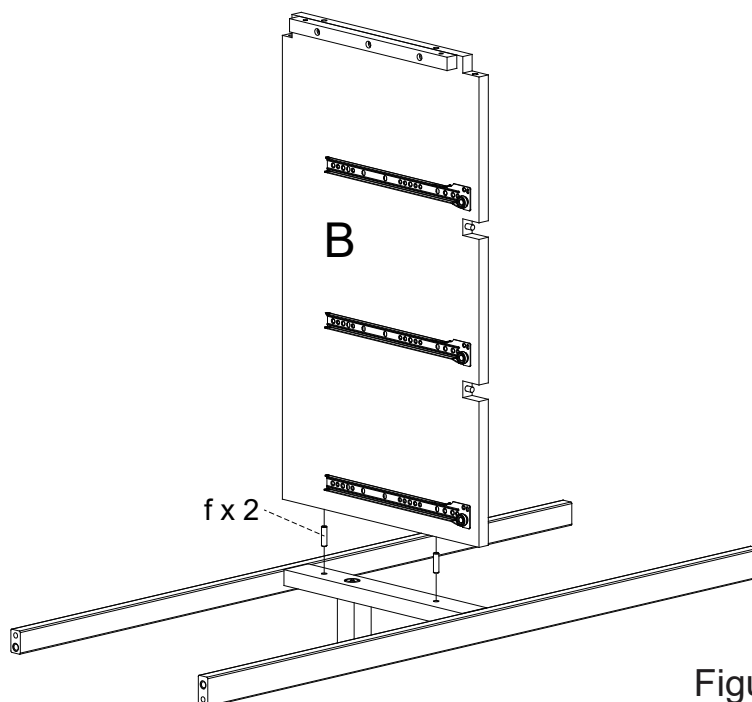
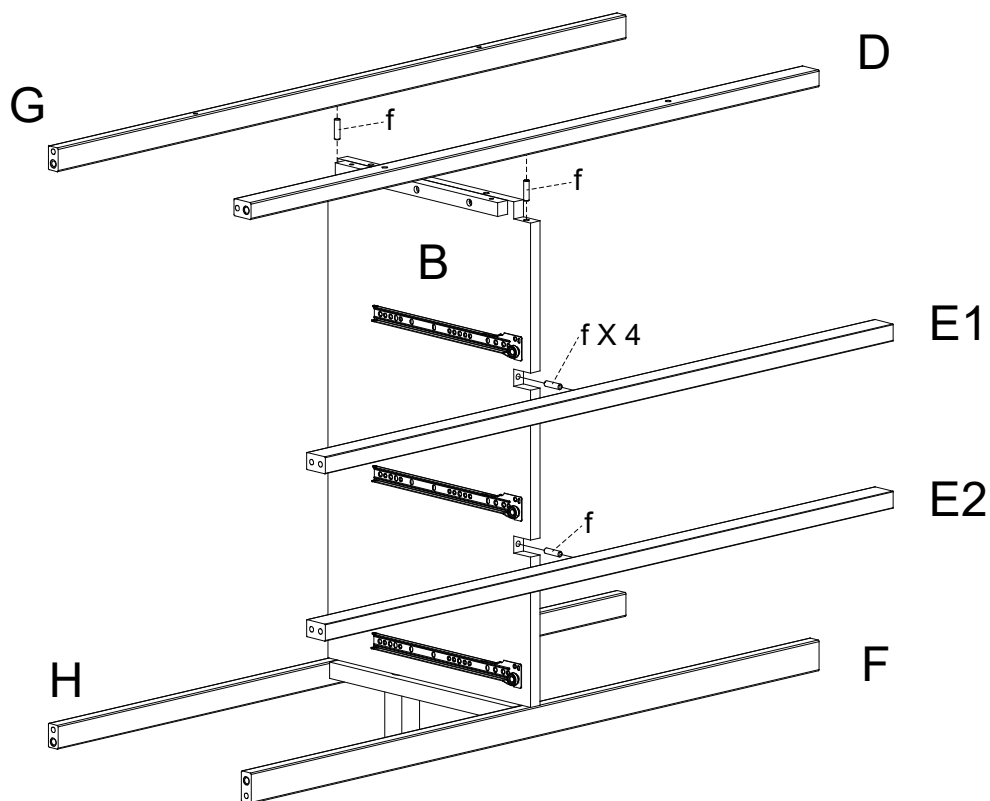

Figure 2
Figure 3
- ② Attach middle panel (B) to support rail (I), by using 2 wood dowels (f) as Figure 2.
- 3** Attach Front Top rail (D) & Front Middle Upper rail (E1) & Front Middle lower rail (E2) & Rear Top rail (G) to Middle Panel (B) , By using 4 wood dowels (f) as Figure 3.
- 5 Attach Top Panel (J) to Side panel by using 5 wood dowels (f) and 4 Bolts (b) and 6 Bolts (d) as Figure 3.
2. Slide Drawer Bottom (R4) into drawer assembly. *Figure 2.*
②
3. Secure both sides of Drawer Front (R) to drawer assembly with four (4) Screws (g). *Figure 3.*